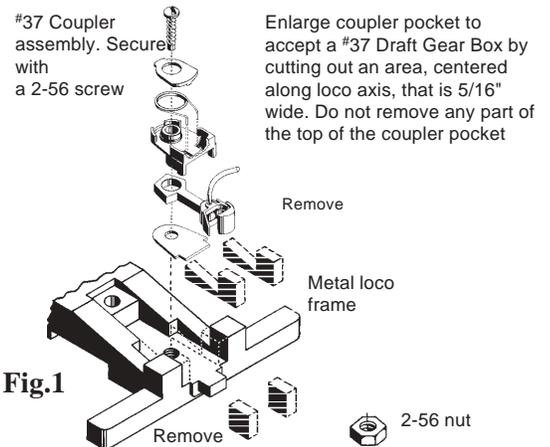

Fig.1
2. For the front (pilot) coupler, enlarge existing coupler pocket to fit a #37 Draft Gear Box. See Fig. 1. Remove equal amounts from each side, being sure enlarged pocket is centered along frame axis. The pocket should be enlarged to 5/16" wide. Do not remove any part of the top of the coupler pocket.